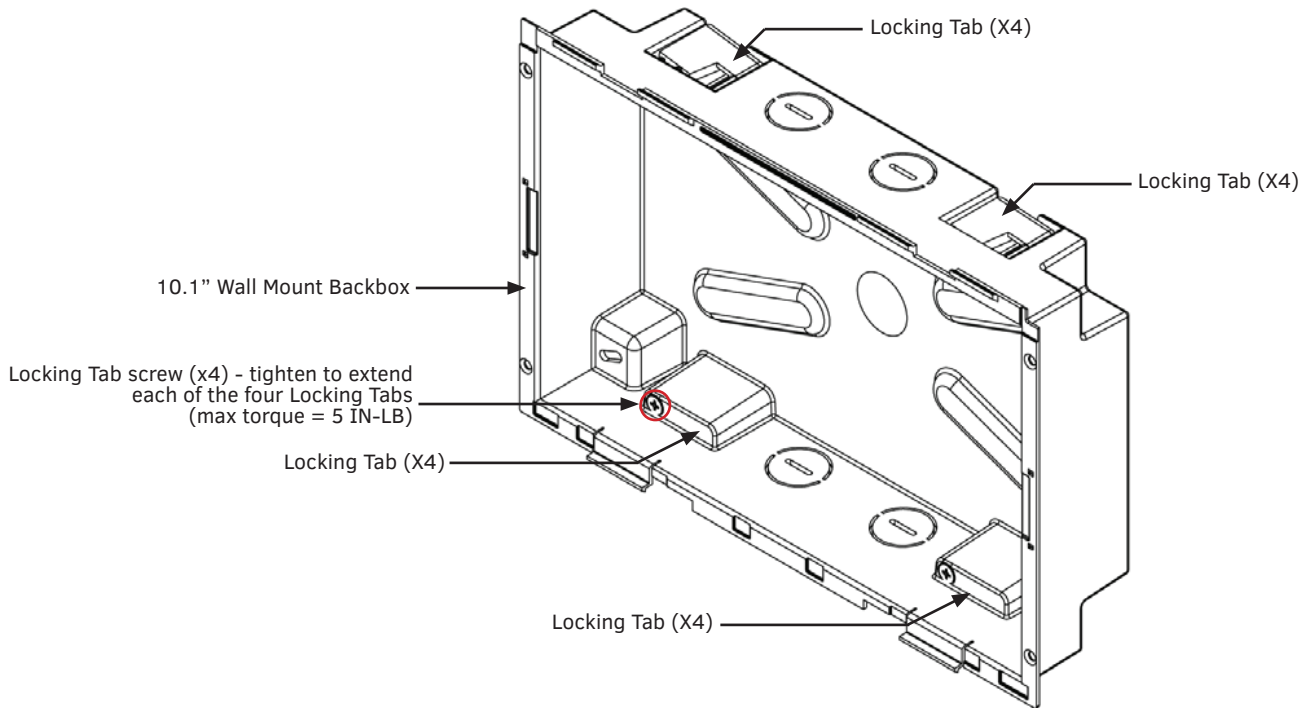
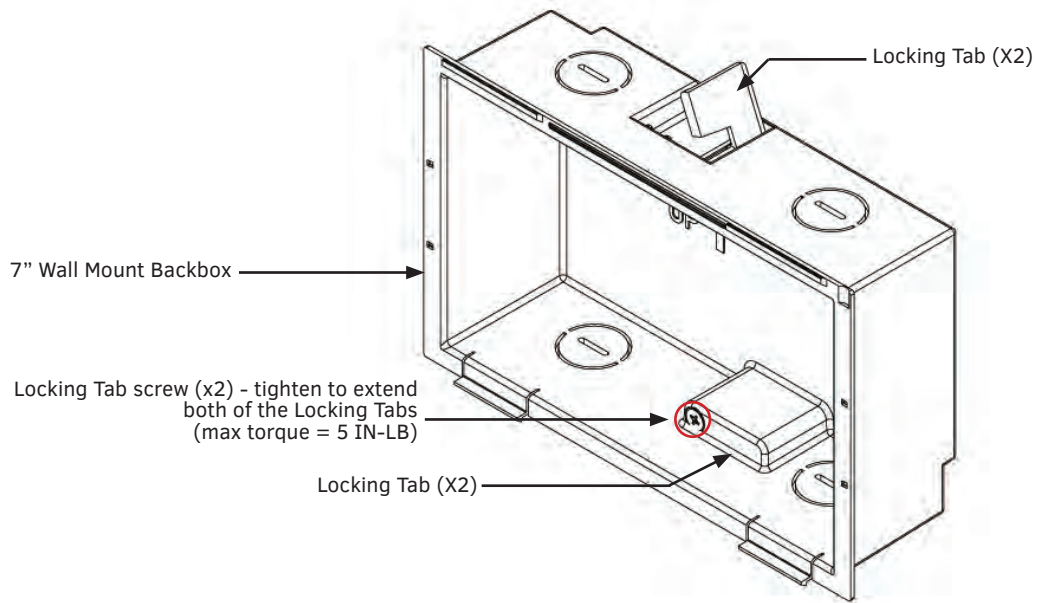

FIG. 25 MD-1002 Backbox - Locking tab and locking tab screws (X4)
FIG. 26 MD-702 Backbox - Locking tab and locking tab screws (X2)
5. Extend the Locking Tabs by tightening the Locking Tab screws until snug. FIG. 25 and FIG. 26 show the Locking Tabs on the Modero Wall Mount Backboxes: